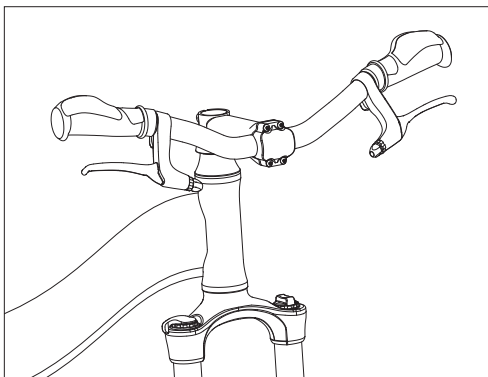
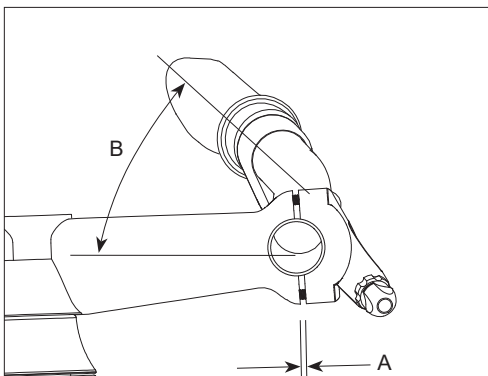

Fig. 9: Tighten screws.
Fig. 10: Set at comfortable angle.
3. Tighten with the provided hex wrench (Fig. 9) to proper torque (page 49). Make sure that the gap between the stem is roughly the same on the top and bottom (Fig. 10, a), and the handlebars are at a comfortable riding angle (Fig. 10, b).